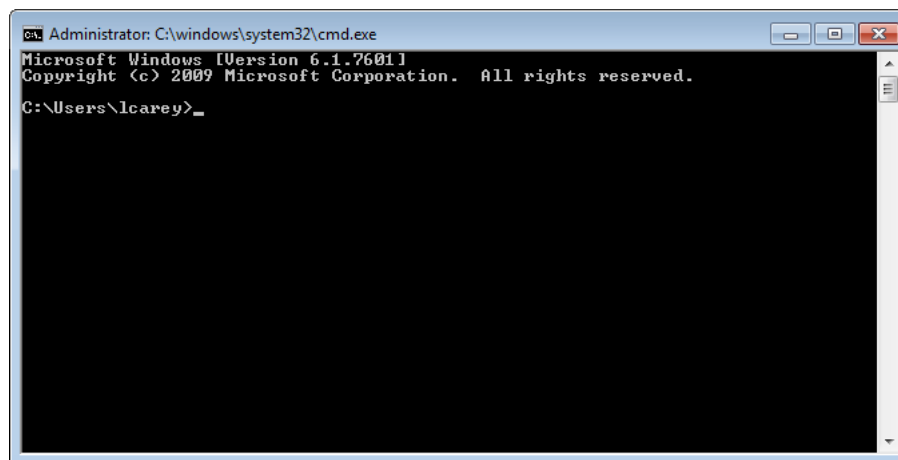

FIG. 43 Windows command interpreter (Cmd.exe)
2. Type **cmd** in the *Open* field and click **OK** to open an instance of the Windows command interpreter - "Cmd.exe" (FIG. 43):